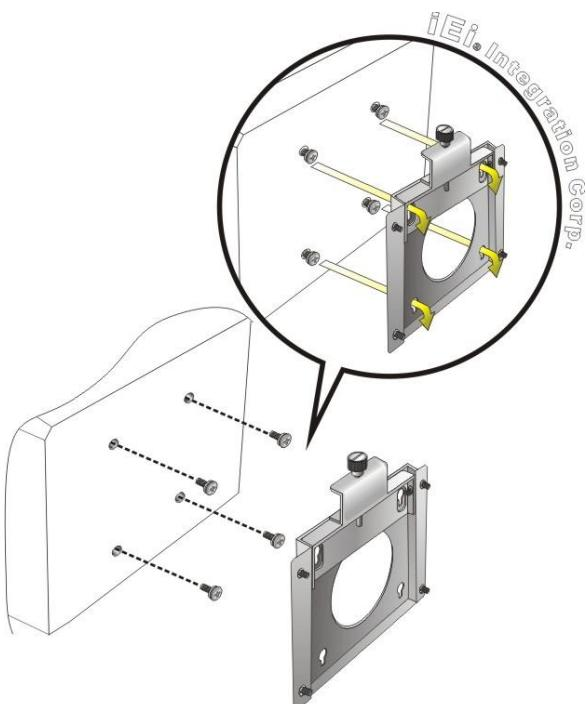

Figure 3-22: Chassis Support Screws
Step 6: Insert the four monitor mounting screws provided in the wall mount kit into the four screw holes on the real panel of the panel PC and tighten until the screw shank is secured against the rear panel (**Figure 3-22**).
Step 8: Carefully insert the screws through the holes and gently pull the monitor downwards until the monitor rests securely in the slotted holes (**Figure 3-22**). Ensure that all four of the mounting screws fit snugly into their respective slotted holes.